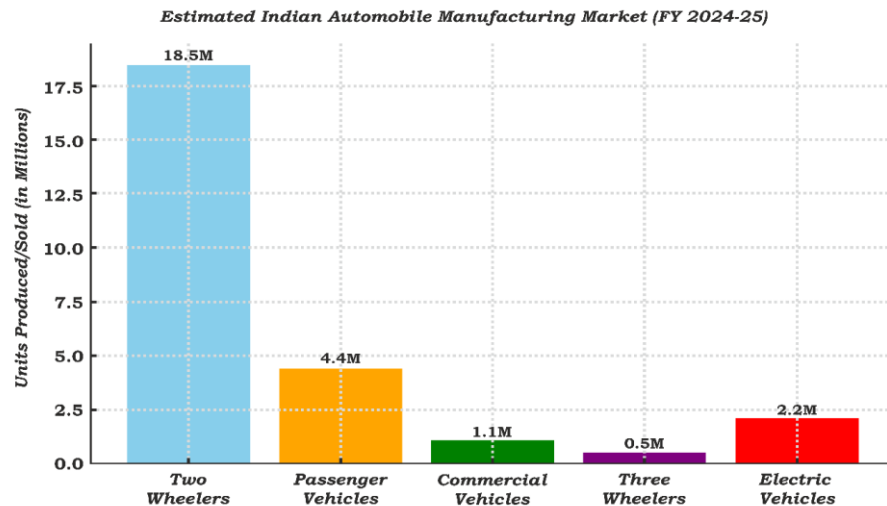

Fig.1.1: Indian Automobile Manufacturing Market during FY 2024-25
The Indian electric vehicle (EV) market is experiencing rapid growth. In FY 2024–25, EV sales rose to approximately 2.1 million units, marking a 33% increase over the previous year. The government's vision aims to make 30% of total vehicle sales electric by 2030, supported by initiatives to build charging infrastructure, domestic battery manufacturing, and EV component production (Fig.1.1).